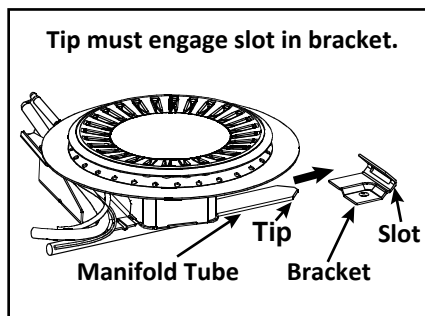
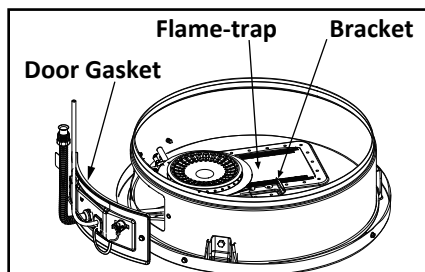

Figure 27: Inside view of combustion chamber
Figure 28: Combustion Chamber
3. Insert the conversion manifold assembly into the burner compartment, making sure that the tip of the manifold tube engages in the slot of the bracket inside the combustion chamber. See Figure 27 and Figure 28.
4. Inspect the door gasket and make sure there is no fiberglass insulation between the gasket and the combustion chamber (Figure 28).